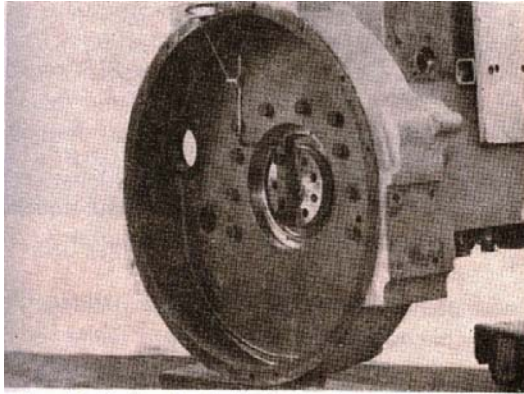

Fig. 14-43, Use the indicator to check the flywheel housing face
1. Move the dial gauge to the face of the housing as shown in Fig. 14-43.